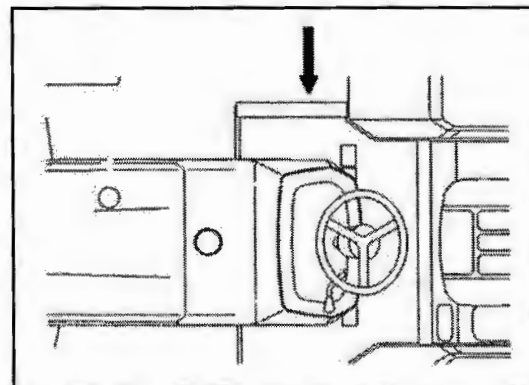

Fig. 36-5 - Brake Pedals
Using a grease gun, apply all purpose grease in the lubricating nipple (1). (See Fig. 36-5).